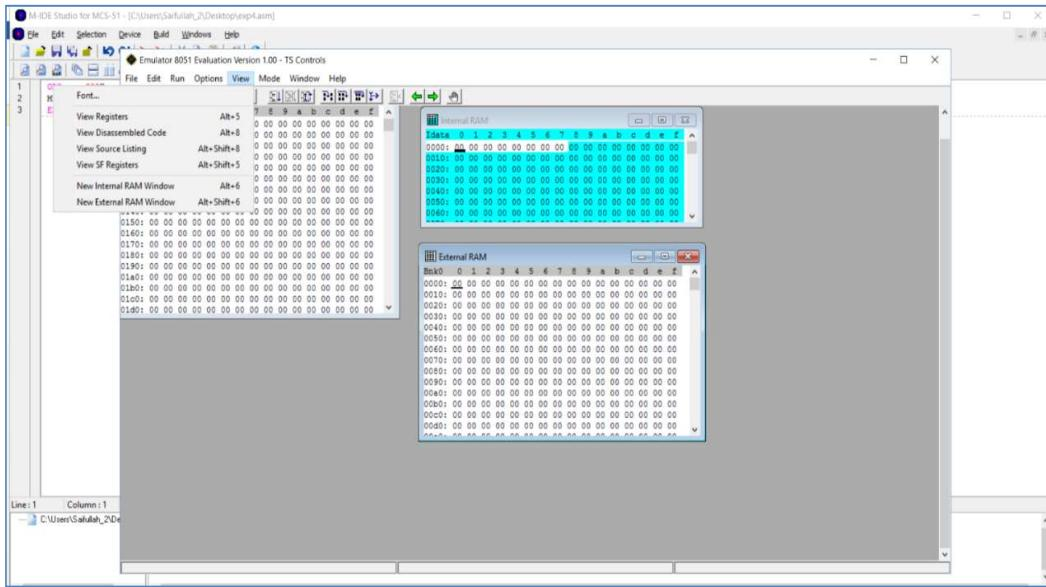

Figure 3.12: Opening Different Windows
- g. Now open the various windows by clicking “View” from the menu bar as shown in Figure 3.12 to get familiar with them. You may need these windows in future experiments.